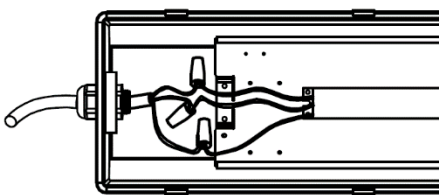

Fig. 6
6. Re-attach the lens to the housing. (Fig. 6)